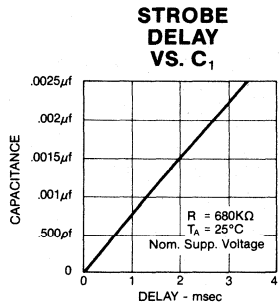

Fig. 5
* R1 (680KΩ), C1 (.001μf) provide approx. 1.5 ms delay (see figure 5)